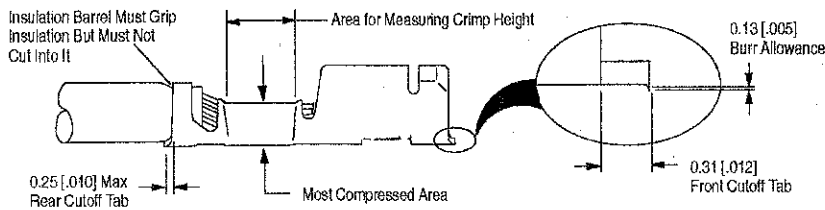

Figure 3
- A. Cutoff Tab:** Cutoff tab must be visible at both ends of the contact but they must not extend beyond the limits specified in Figure 3.
- B. Burr on cutoff:** Burrs resulting from the shearing of the cutoffs must not exceed the burr allowance shown in Figure 3.